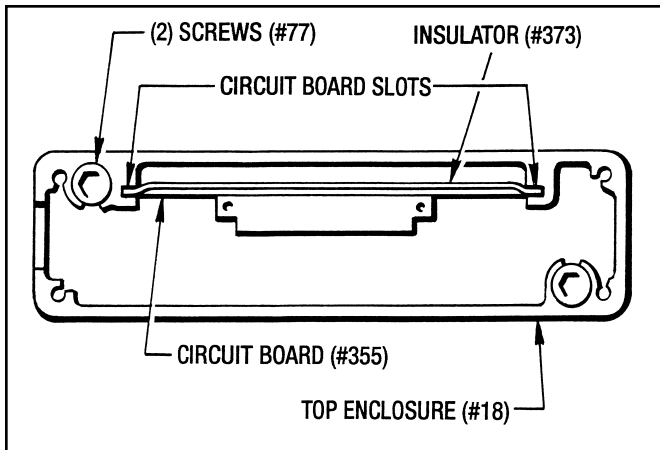

Figure 5.7 - Circuit Board Slots
9. While holding the Circuit Board upright slide the Upper Enclosure (#18) down over the Circuit Board onto the Disc Housing. Make sure the edges of the Circuit Board are in the (2) side retaining slots located in the Upper Enclosure. (See Figure 5.7)